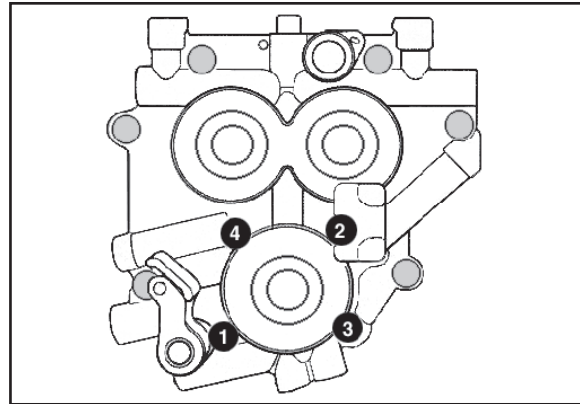

Figure 1
- K. Following sequence shown, alternately loosen and remove oil pump bolts. **See Figure 1.**
- H. Install oil pump mounting bolts with a drop of Loctite® threadlock 242 or 243 (blue) according to procedure found in factory service manual: Gently bottom screws, then back them out ¼ turn. Center oil pump by rotating engine by hand while snugging down screws. Alternately tighten bolts to 95 in-lbs. torque in sequence shown. See Figure 1 Page 3. Before moving forward, verify that inner drive gears rotate freely and no binding is present.